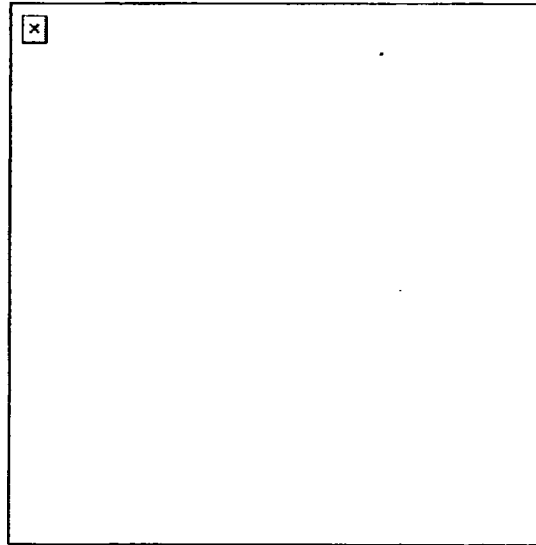

Figure 3. Installation of pintle adapter on M66 ring mount.
- (1) Loosen the lower pedestal-locking lever. Turn the upper pedestal until the upper locking lever is on same side as the lower pedestal-locking lever. Tighten the lower pedestal-locking lever.
- (2) Loosen the upper pedestal locking lever.
- (3) Insert the pintle adapter assembly into pedestal mount.
- (4) Tighten the upper pedestal locking lever. Pull up on the pintle adapter assembly to make sure it is secure.
- (5) Remove the pintle adapter quick release pin.
- c. M66 ring amount (A, Figure 3).
- (1) Stand inside the M66 ring facing the pintle adapter hole; rotate the pintle lock handle upward.
- (2) Insert the pintle adapter assembly into the pedestal (B, Figure 3).
- (3) Rotate the pintle lock handle downward to secure the pintle adapter. Pull up on the pintle adapter to make sure it is locked in place.
- (4) Remove the pintle adapter quick release pin.